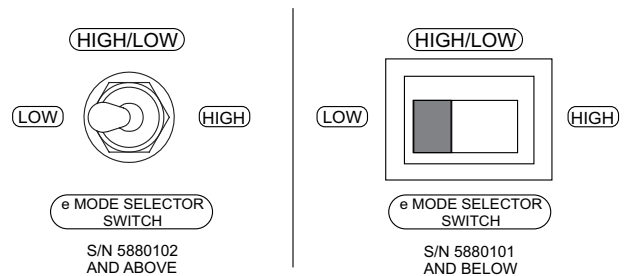

Figure 48. E-Mode Selector Switch (CV Mode)
- Place e-Mode selector switch (Figure 48) in the desired position as defined by Table 23 or Table 24. This switch is a 3-position **toggle** switch (S/N 5880102 and above) or 3-position **rocker** switch (S/N 5880101 and below)